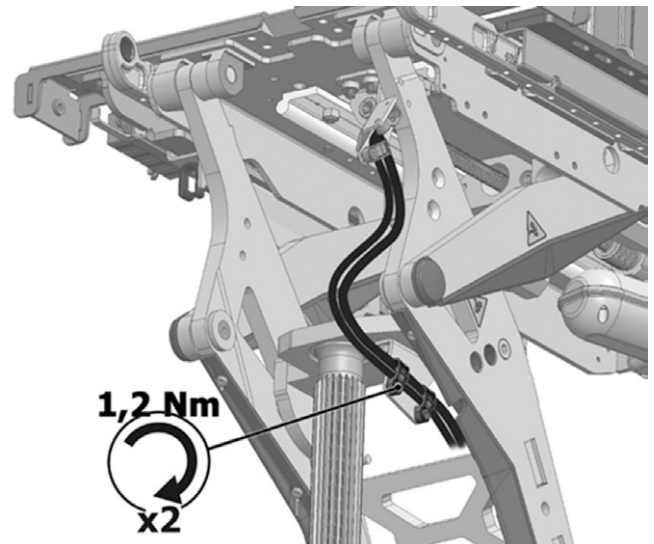

Figure 144. The bus cable is mounted in the two cable brackets on the lower part of the AP elevators arm.
8. The bus cable is mounted in the two cable brackets on the lower AP elevators arm. The cable brackets are mounted with one screw each. See fig. 144. Use a Torque wrench to tighten the screws. **Tightening torque 1.2 Nm / 0.9 Ft/lbs.**